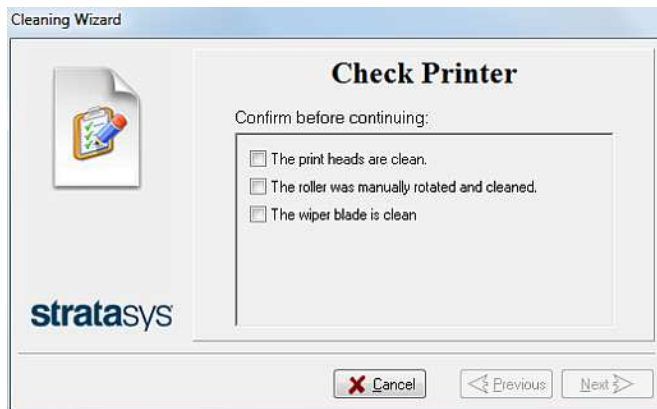

Figure 6-38 Wizard screen during cleaning tasks
14. When you have finished cleaning, select the confirmation check boxes in the wizard screen (see Figure 6-38) and click Next.